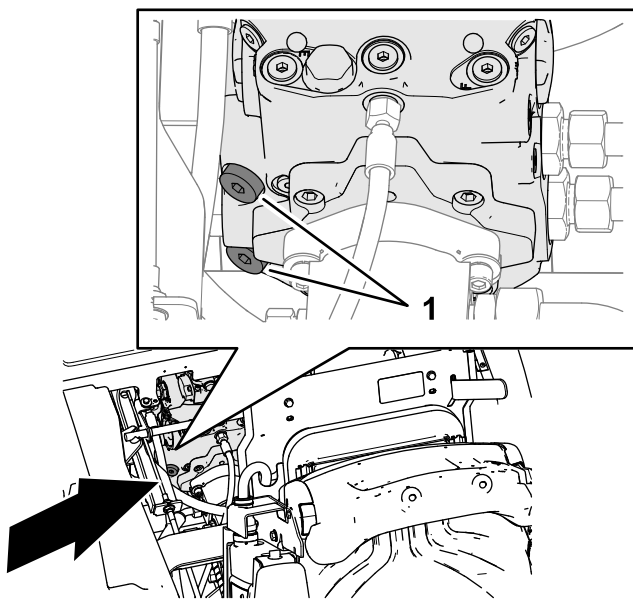

Figure 35
1. Use an 8 mm (5/16 inch) hex key to rotate the 2 socket head plugs for the transmission pump-relief valves counterclockwise 3 full turns (Figure 35).